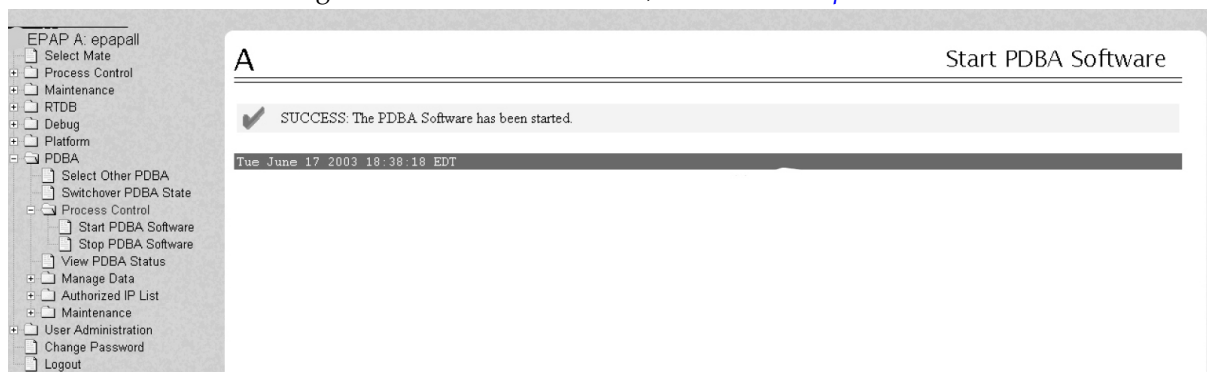

Figure 36: PDDB Started
6. When the PDDB software has been started, the window shown in Figure 36: PDDB Started displays, and within moments the banner will show the PDDB status as ACTIVE or STANDBY.